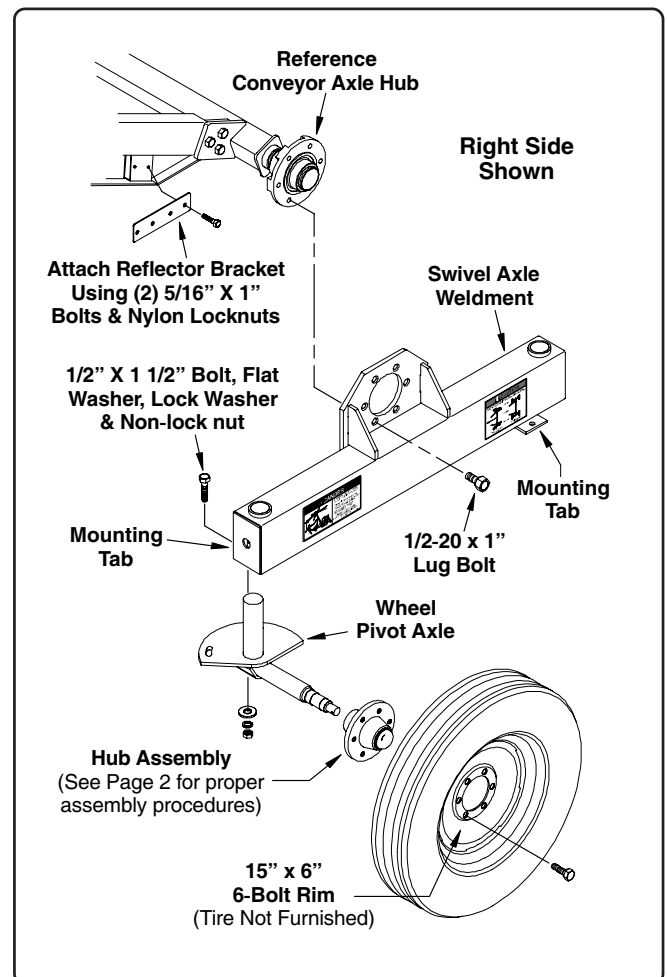

Fig. 1
3. Mount the swivel axle weldments onto the existing hubs on each end of the conveyor axle as shown in Fig. 1. Secure each axle weldment to the conveyor hub using six (6) 1/2" x 1" lug bolts.
4. Locate the two right and the two left hand wheel pivot axles from the kit (See Fig. 1). Insert the right hand pivot axles into the sleeves located on each end of the right side swivel axle, insert the left hand pivot axles into the sleeves on the left side swivel axle.